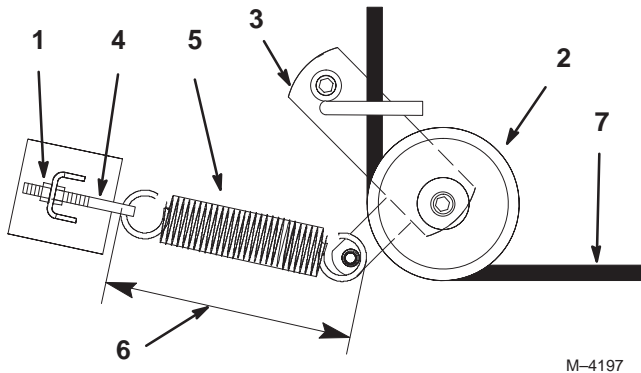

Figure 64
3. Loosen outer nut on spring eye bolt (Fig. 64).
5. Remove spring loaded idler pulley (Fig. 64).
6. Route new belt through idler arm (Fig. 64).
8. Retighten outer nut on spring eye bolt (Fig. 64).
Note: Check spring length. The spring should measure 9.375 ± .125 in. (238 ± .3 mm) when installed. Adjust if it does not (Fig. 64).